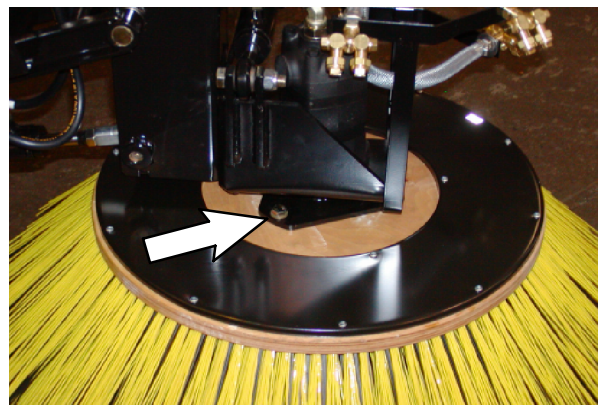

FIG. 1
4. Loosen the hardware holding the old vario brush onto the vario assembly and remove the vario brush from the drive hub. Refer to Fig. 1.